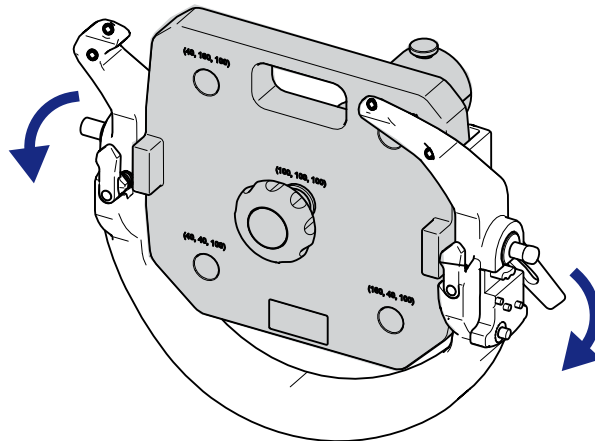

Figure 1.22 Lock the Vantage frame adapter to the Film Holder Tool
- c Turn and fold down the left and right levers to lock the frame adapter, see Figure 1.22.